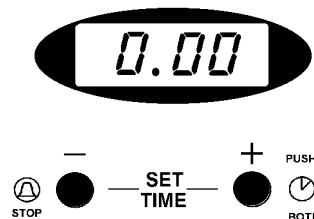

Fig. 3.
Within 5 seconds press button (2). 12.00 will show in the display as Fig. 3.